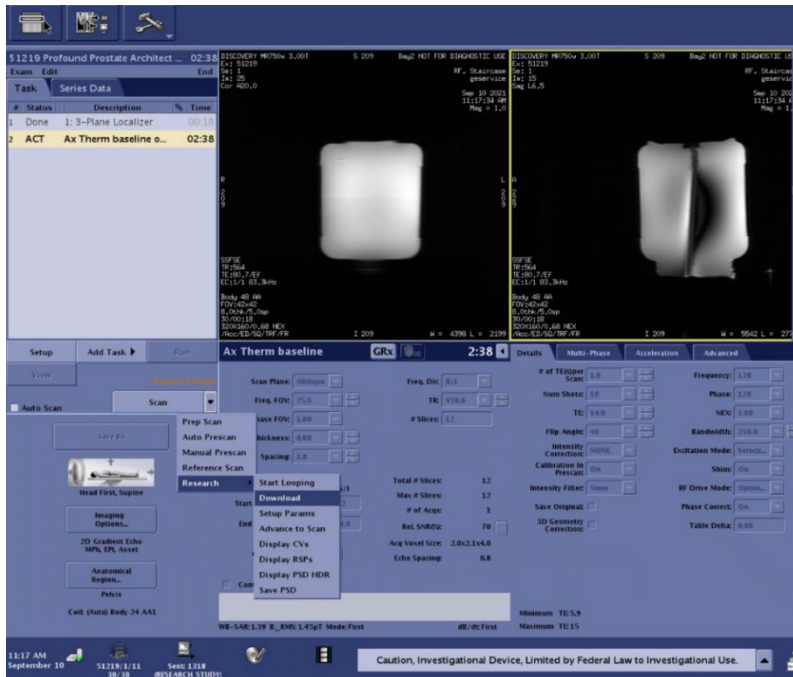

Figure 37. Downloading AX THERM scan parameters to the MRI.
4. In the dropdown list next to the **Scan** button, select **Research > Download** (Figure 37).